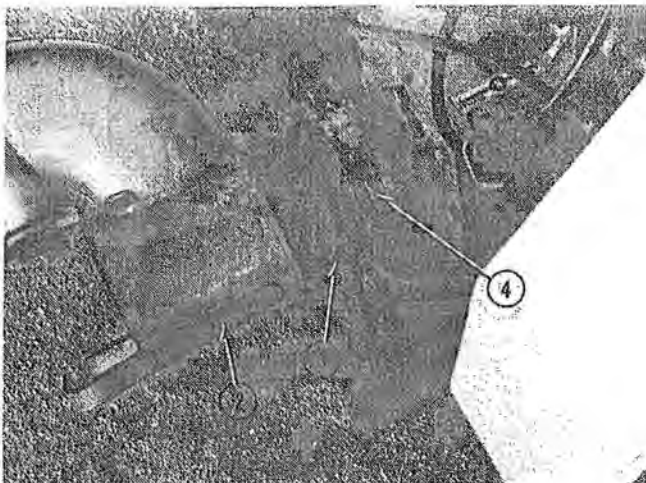

FIG. 7
The gooseneck (2, Fig. 7) support section can now be removed from the barrel casting. (3, Fig. 7)
Note: If the gooseneck cannot be removed easily, you may remove the (4) 14 mm. self-locking nuts (4, Fig. 7) that secure the barrel casting to the rear case cover. Then the barrel casting can be pressed or driven from the gooseneck support section.